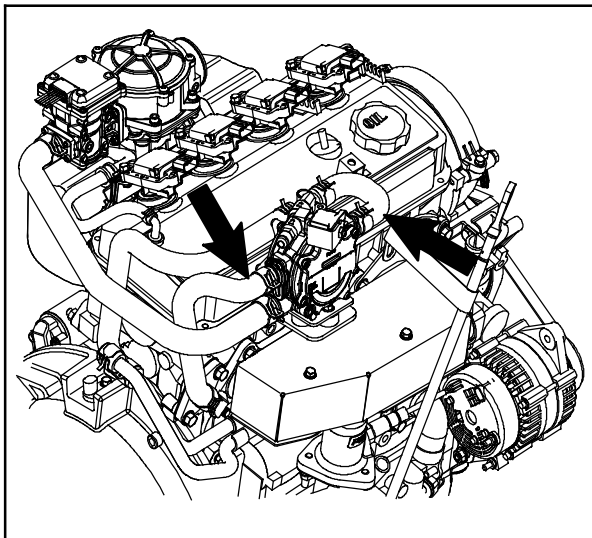

FIG. 8
2. Use pinch clamps to pinch the coolant hoses connected to the vaporizer. (Fig. 8)